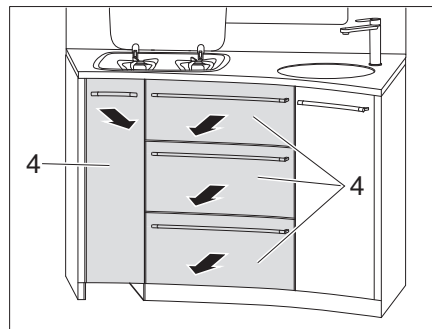

Fig. 125 Removing kitchen drawers
- Remove the kitchen drawers (Fig. 125,4).